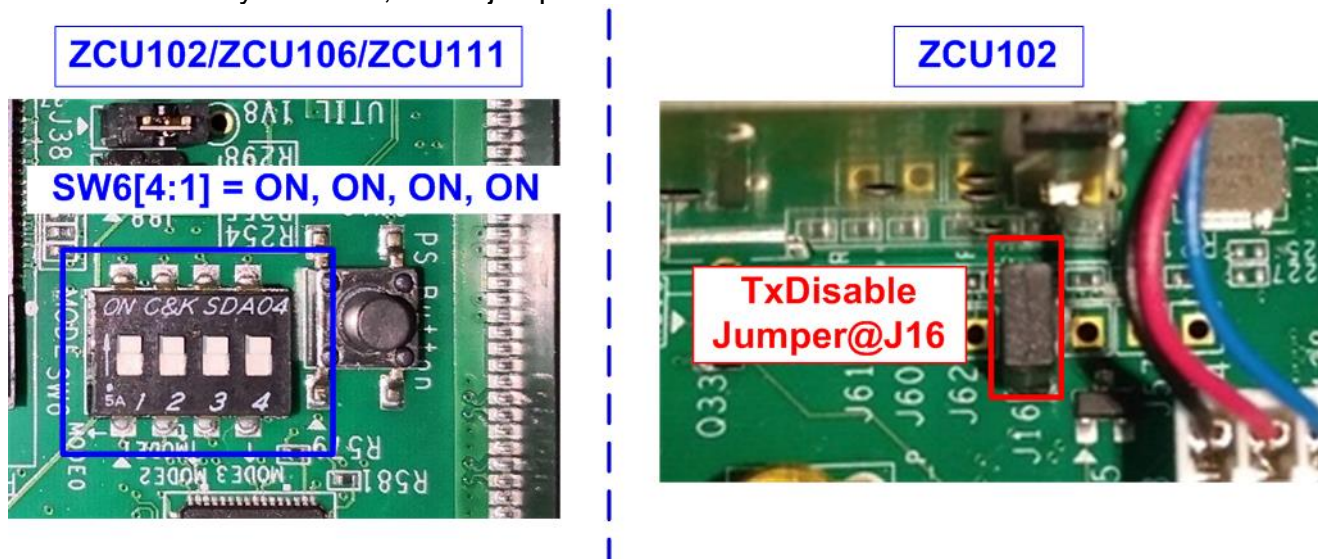

Figure 2-9 ZCU102/ZCU106/ZCU111 board setting
- b) The board setting on ZCU102/ZCU106/ZCU111 boards is shown in Figure 2-9.